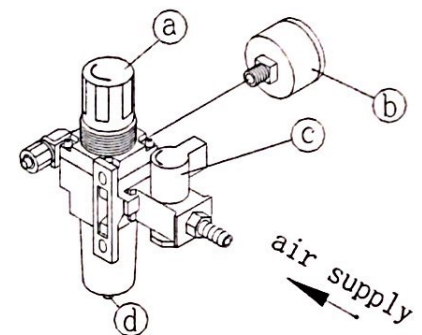

Figure 6
B. Air Valve Assembly (Figure 6)